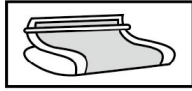

Figure 6-1
- Pull the cuff through the metal loop (See Figure 6-1). Slide your bare arm through the cuff and tighten it securely. Close the velcro to fasten the cuff in place.